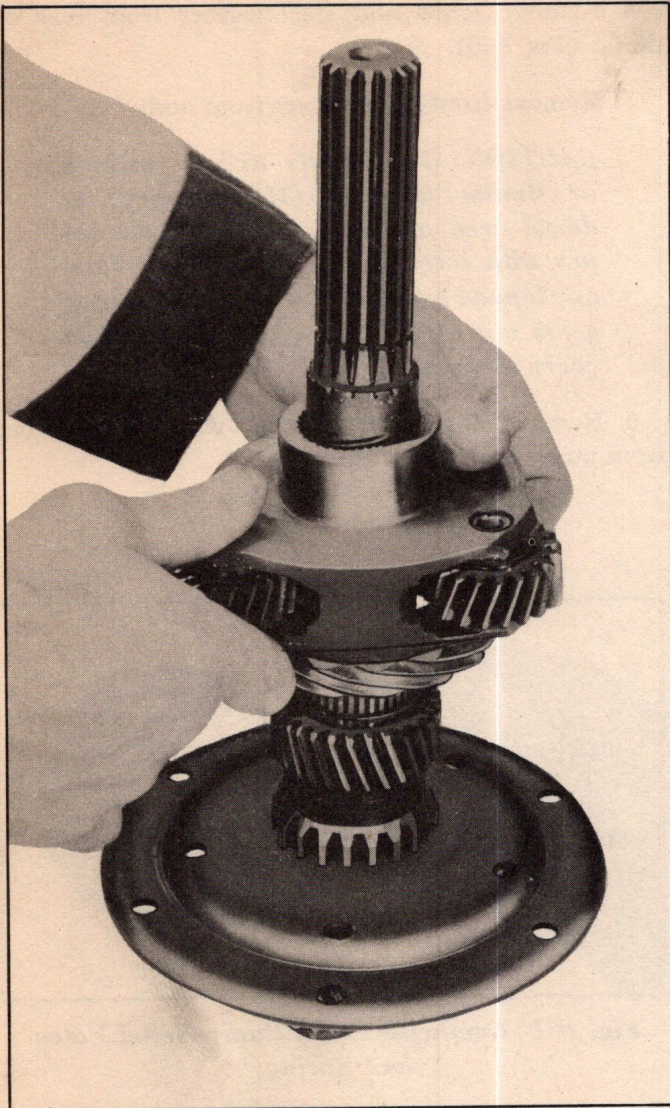

Fig. 156—Removing Reverse Planet Carrier
17. Remove reverse planet carrier from output shaft (Fig. 156).